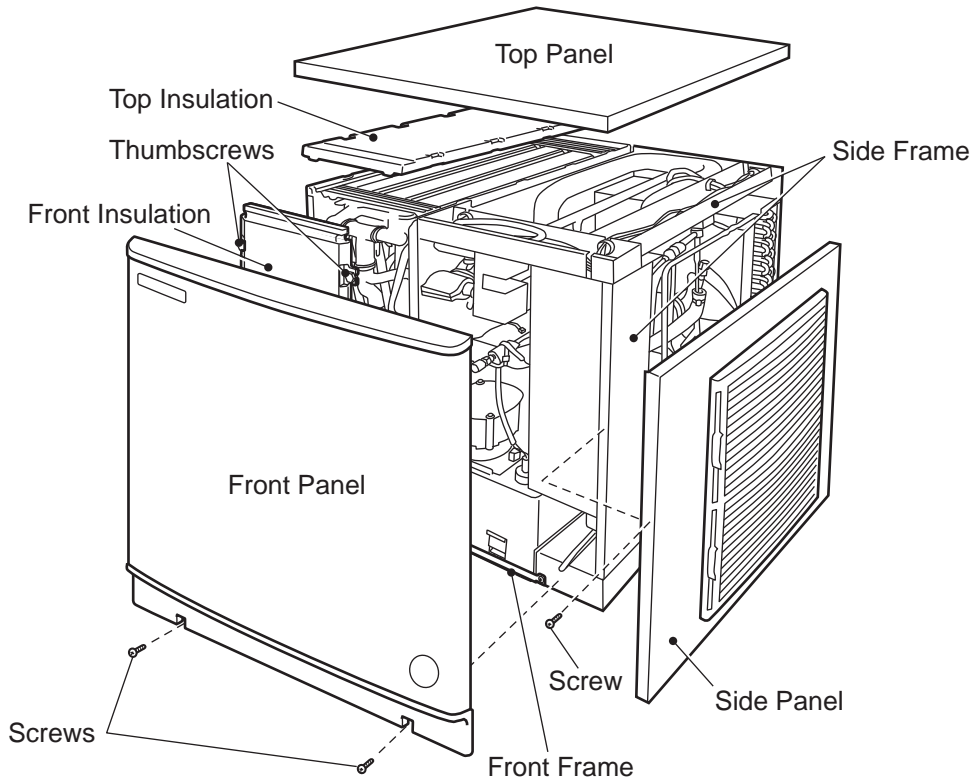

Fig. 1
B. How to Remove Panels - See Fig. 1
- Side Panel (R): Remove the screw. Slide forward slightly and lift off.
Do not use the side frame or front frame to lift the icemaker. See Fig. 1. Lift the icemaker from the base.